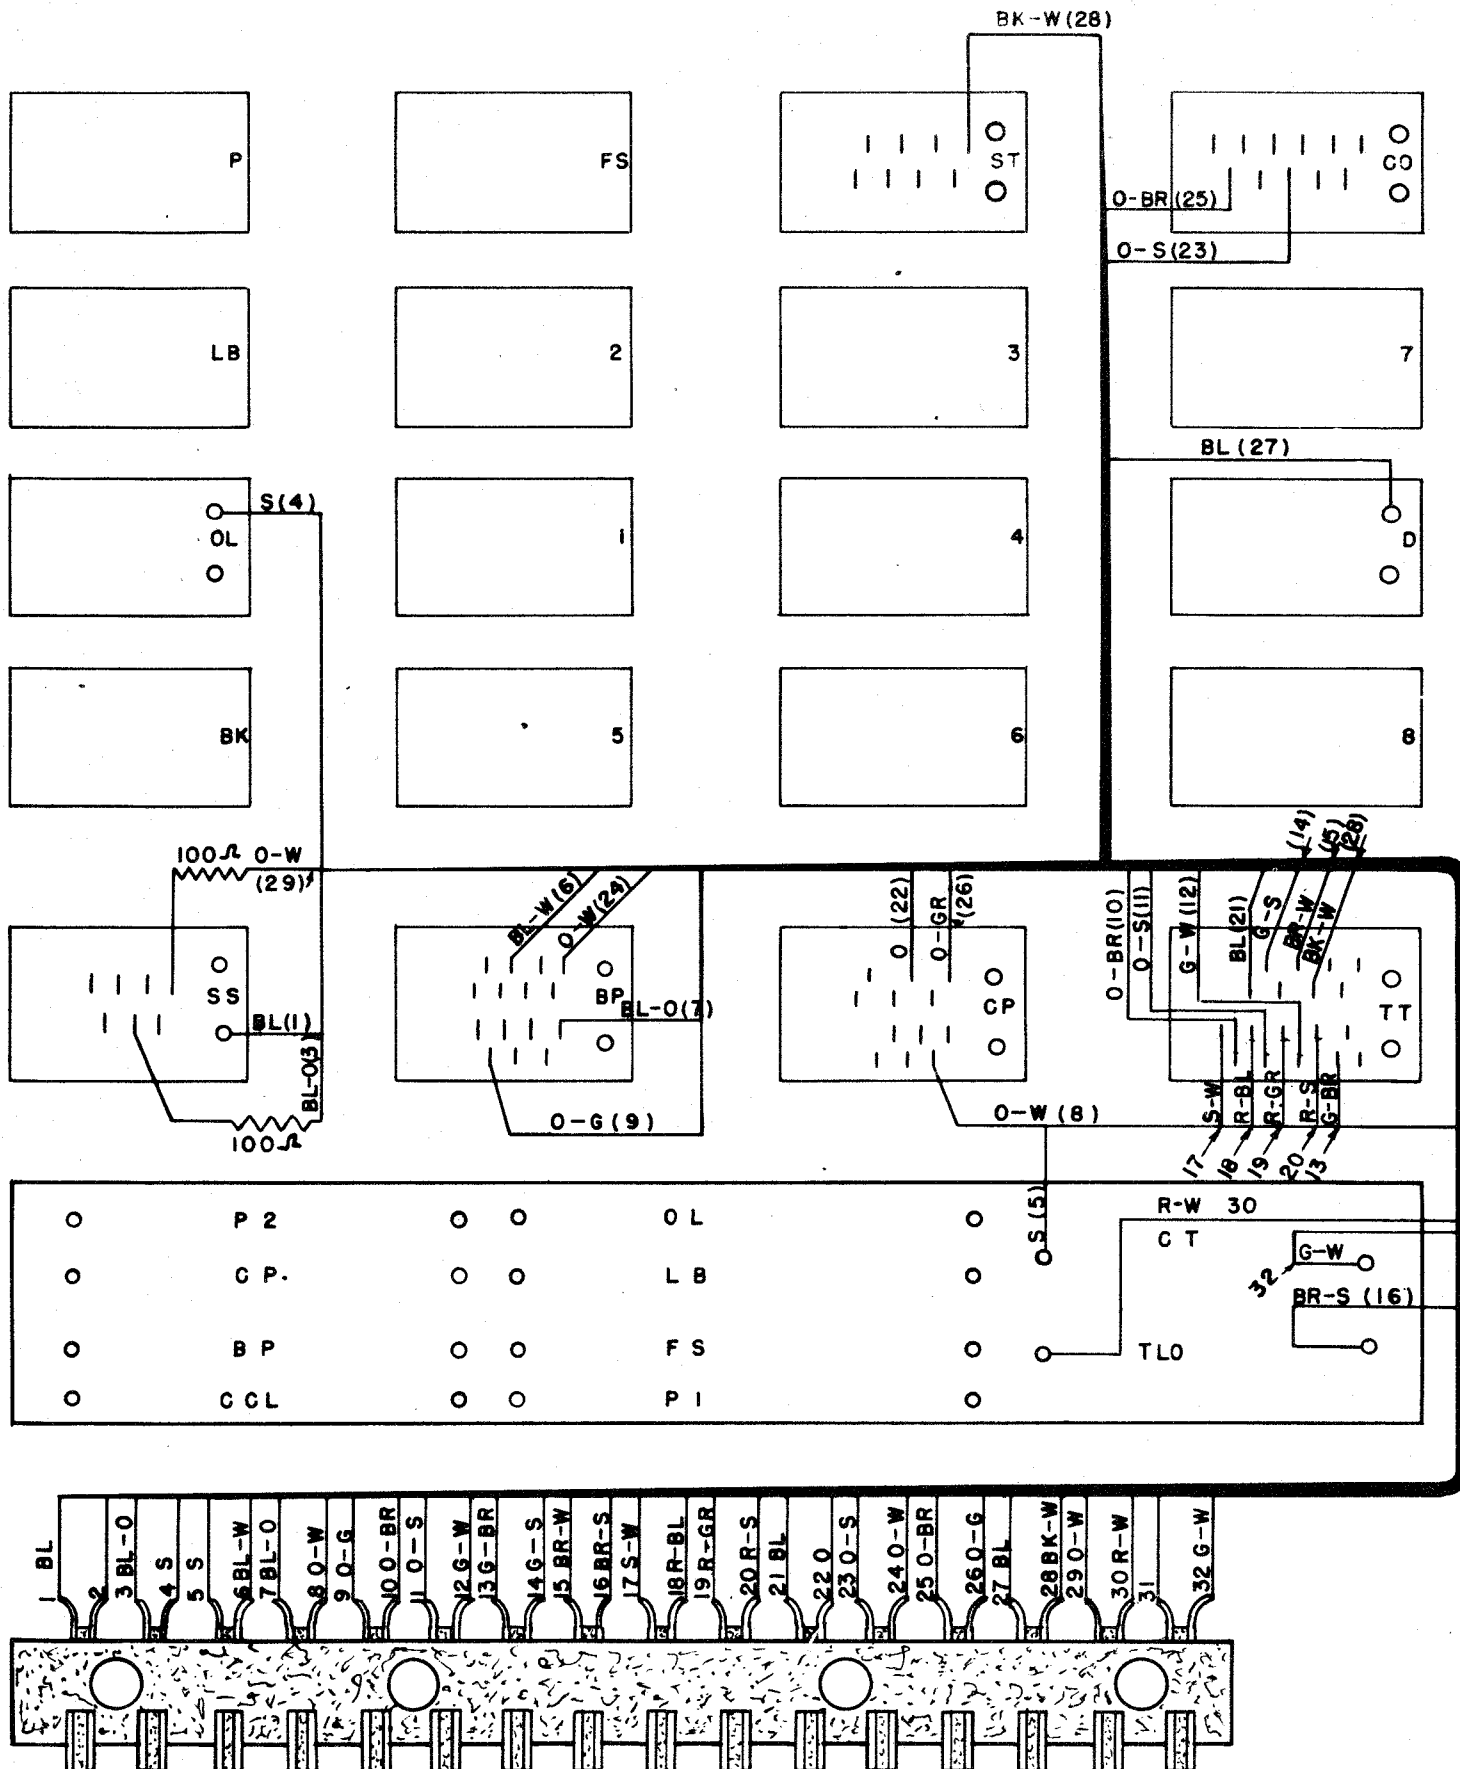

FIGURE 1
- (1) Remove the cover from the ASID.
- (2) Remove and discard the screws and nuts which mount the cover on the ASID frame.
- (3) Loosen the two screws which mount the ASID to the housing and swing the ASID to a vertical position.
- (4) Cut the cable, which runs from the ASID to the slip connection terminal block on the transmitter distributor base, about 12 inches from the ASID.
- (5) Remove the ASID from the housing. Remove and discard the long mounting screw from the ASID.
- (6) Remove and discard the bracket, to which the cable is tied, from the bottom of the ASID.
- (7) Remove and discard the screw which mounts the right-hand side of the filter pack to the ASID frame. Using the two 8333 (10-32) screws furnished, mount the slip connection block assembly to the bottom of the rack on the terminal side of the ASID so that the cut-out portion of the mounting block fits over the hexagonal nut on the rack. Use one screw in the filter pack mounting hole, and the other in the hole provided in the frame on the opposite side of the filter pack.
- (8) Form the cable, which was cut in Paragraph 4, along the terminal block. Lace the cable with twine and cut the individual wires to meet the required terminal connection on the block as indicated on Figure 1 and